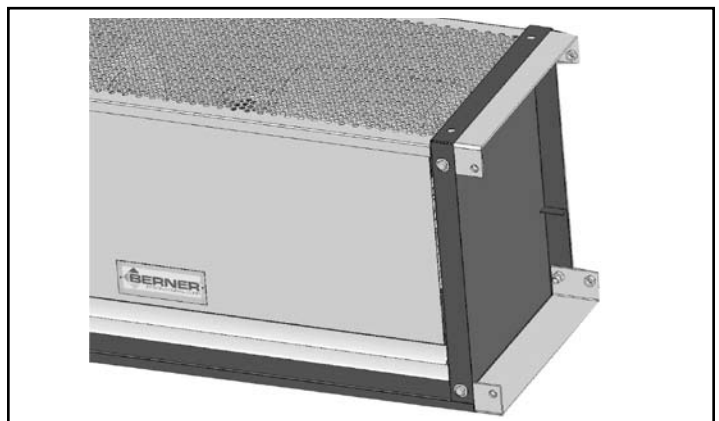

FIGURE 8 - Tandem Mounting
- C. Using (4) ½ - 13 x 1" bolts, attach the Tandem Mounting Brackets to the inside of one of the unit's endplates as shown in **Figure 8**.